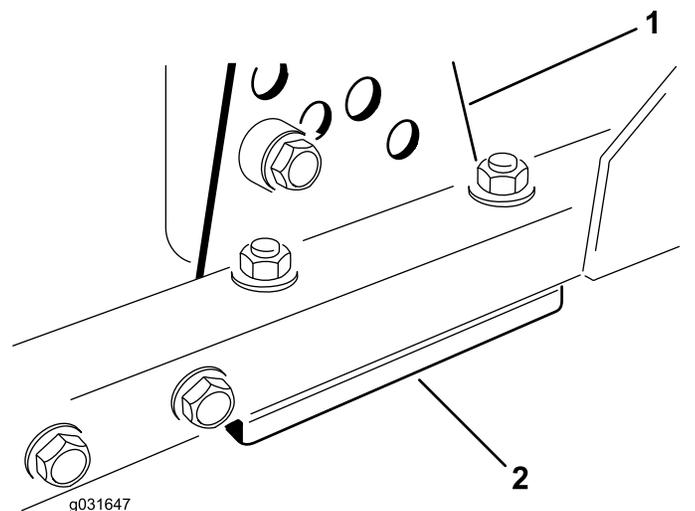

Figure 69
1. Remove the height-of-cut bracket (front, left, or right) from the deck frame (Figure 69).
2. Adjust the 1.5 mm (0.06 inch) shims and/or 0.7 mm (0.03 inch) shim between the deck frame and bracket to achieve the desired height of cut (Figure 69).
3. Install the height-of-cut bracket to the deck frame with the remaining shims assembled below the height-of-cut bracket (Figure 69).